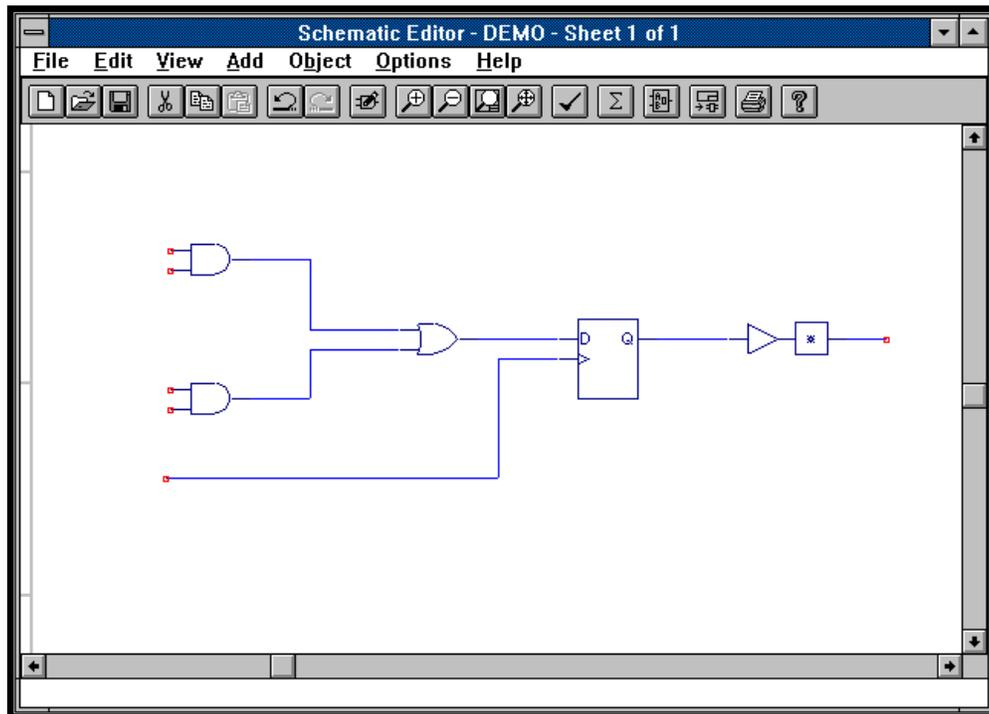

Figure 1-7. Building the Schematic
- Repeat the above procedure to add a g_d register from the REGS.LIB library and a G_OUTPUT from the IOPADS.LIB. Connect them so that the schematic follows the example (Figure 1-7).